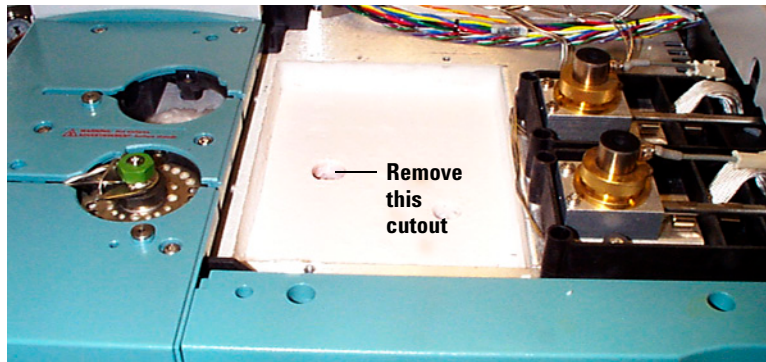

Figure 4 Remove the insulation cutout
- 3 This exposes a layer of soft insulation. Remove it to expose the hard oven insulation. Remove the pre-cut insulation piece at the location shown in Figure 4.